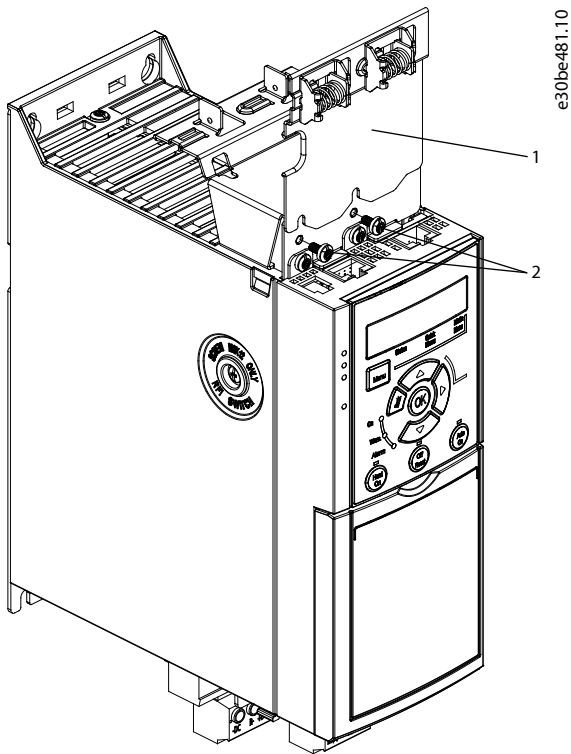

Figure 7: Fasten the Vertical Decoupling Plate with Screws
- c. Fasten the plate with 2 screws as shown in Figure 7. Tightening torque is 0.7–1.0 Nm (6.2–8.9 in-lb).
Figure 7 shows Ethernet-based connectors (RJ45). The actual connector type depends on the selected fieldbus variant of the drive.